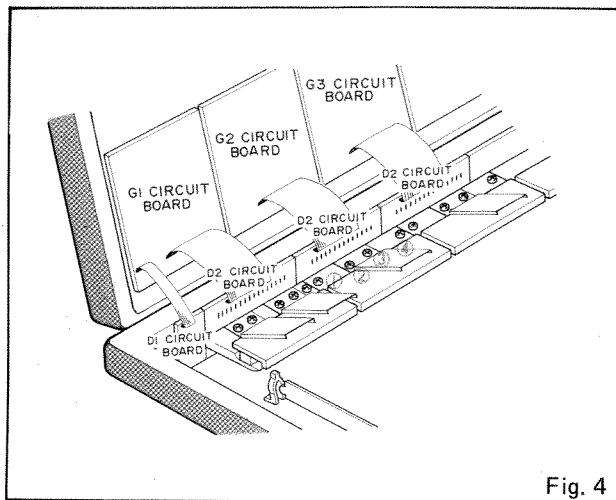

Fig. 4
Open the panel according to procedure (1). Remove screws (1) to (4), and then remove the D circuit board, as shown in Fig. 4.